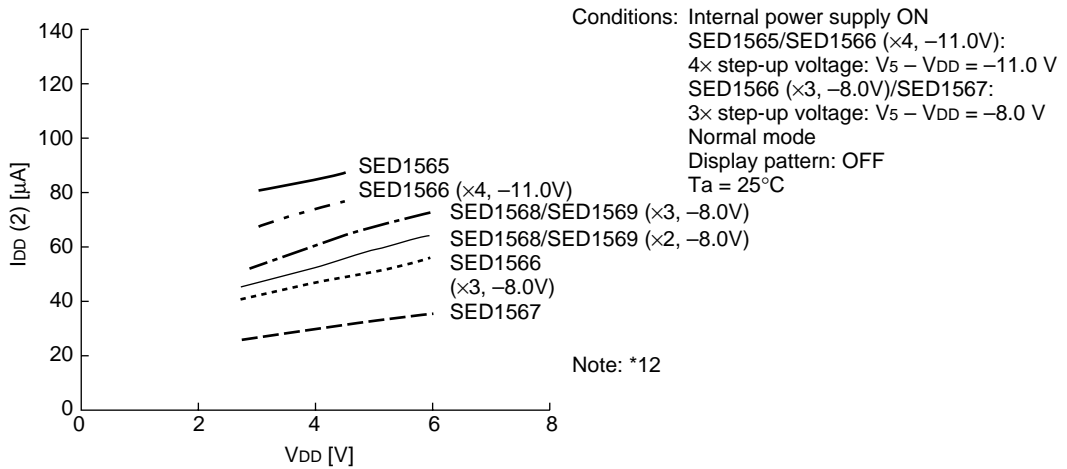

Figure 33
- \*2 The operating voltage range for the VDD system and the V5 system is as shown in Figure 33. This applies when the external power supply is being used.
- \*3 The A0, D0 to D5, D6 (SCL), D7 (SI), RD (E), WR (R/W), CS1, CS2, CLS, CL, FR, M/S, C86, P/S, DOF, RES, IRS, and HPM terminals.
- \*5 The A0, RD (E), WR (R/W), CS1, CS2, CLS, M/S, C86, P/S, RES, IRS, and HPM terminals.
- \*6 Applies when the D0 to D5, D6 (SCL), D7 (SI), CL, FR, and DOF terminals are in a high impedance state.
- \*7 These are the resistance values for when a 0.1 V voltage is applied between the output terminal SEGn or COMn and the various power supply terminals (V1, V2, V3, and V4). These are specified for the operating voltage (3) range.